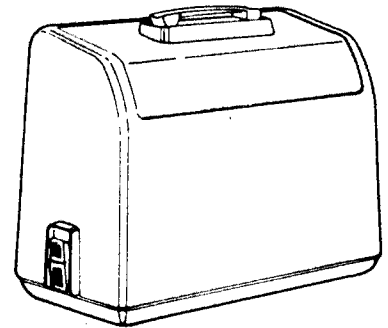

Fig. 3
"SEARS" on handle facing you. The case slopes in the same direction of the machine. (Fig. 3)
3. Pull end of thread through hole in bobbin as shown. (Fig. 3)